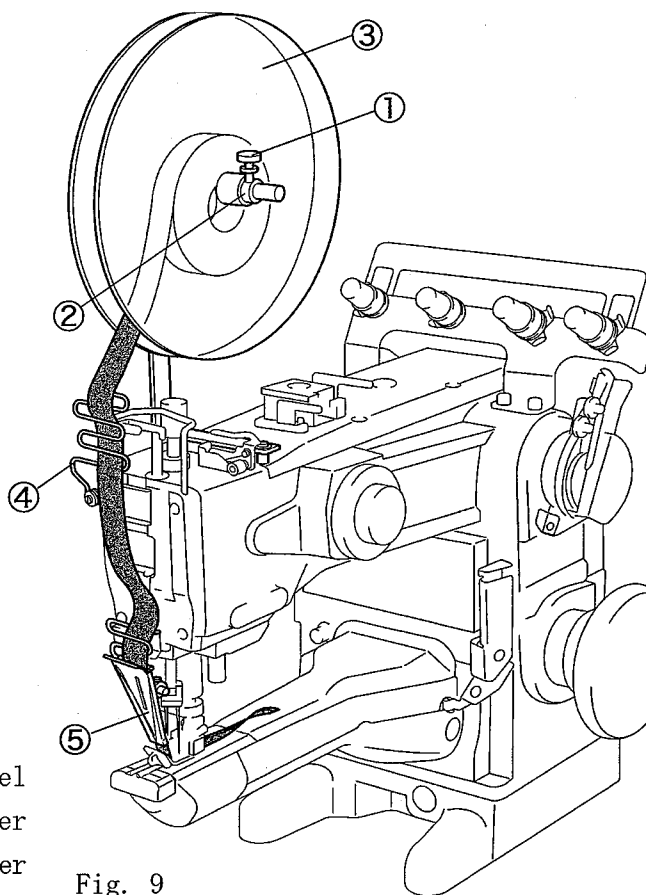
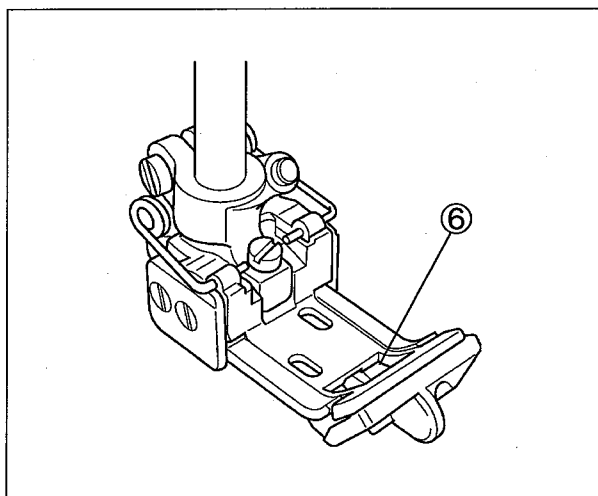

Fig. 9
Fig. 10
Refer to Fig. 9, pass the tape from the tape reel ③ through the tape guide (upper) ④ and the folder ⑤. Then pass the tape through the hole ⑥ of presser foot and pull the tape from behind so that it may pass the bottom of the presser foot. (Fig. 10)